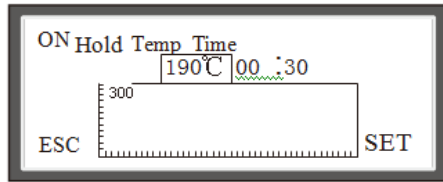
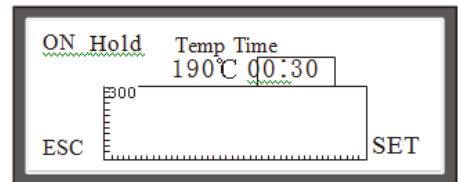

Fig. 11
Fig. 12
④. Press "SET" button to switch "SOLDERING" to highlighted state, and press "PAGE DOWN" button to switch to "HEAT PRESERVATION". Press "SET" Button again to switch "TEMPERATURE" to highlighted state. Press "PAGE UP" button and "PAGE DOWN" button to conduct the setting of "TEMPERATURE" as shown in Fig.11. The heat preservation setting range shall be lower than the soldering temperature. Press "SET" Button again to switch to "TIME" setting to highlighted state as shown in Fig.12, and then conduct time setting.